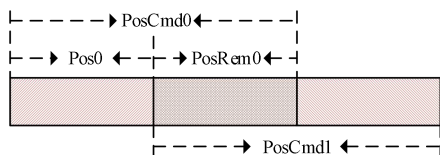

Fig. 12.14 Schematic diagram of relative position command operation
② The relative position command takes the actual position value as the reference point. The position command value of the next segment takes the actual position value in operation as the reference point to calculate the target position value. As shown in Figure 12.14, the Setting value of the first segment position command is  $PosCmd0$ , and after running the pulse of  $Pos0$ , the second segment relative position command  $PosCmd1$  is inserted, then the total number of pulses run by the second segment position command is  $PosCmd1$ , and the final operation position value is  $Pos0 + PosCmd1$ .